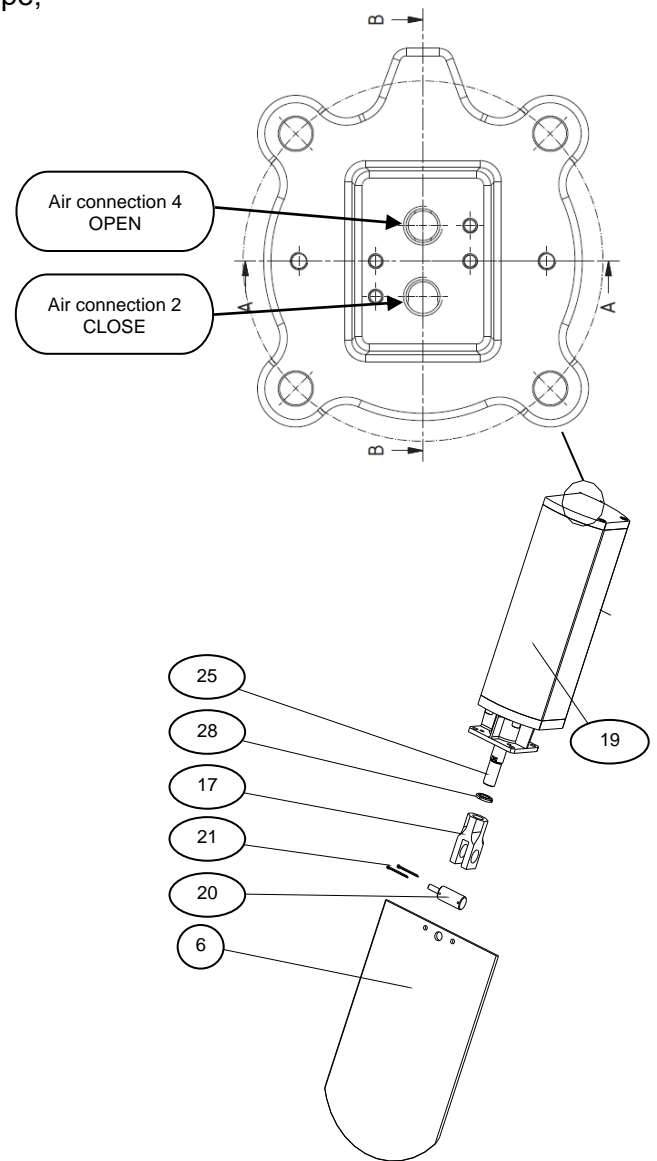

Fig. 3
- **When assembling** the cylinder, the following is to be prepared (pos. number see Fig. 3):
- The clevis pin (20) and the split pins(21) match,